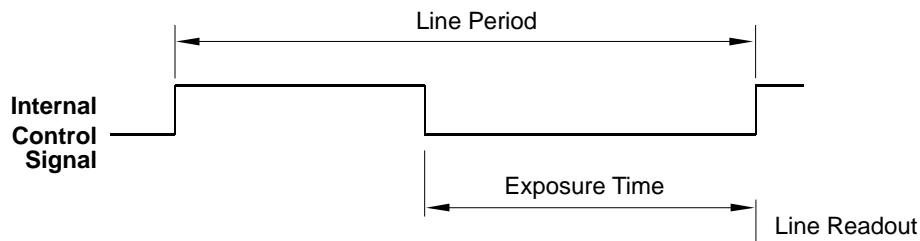

Fig. 55: Free Run, Programmable Mode
- In **free run programmable** mode, line acquisition begins on the rising edge of the ExSync signal. The pixels are exposed and charge is accumulated when the internal control signal is low. The pixel values are read out of the sensor on the rising edge of the internal control signal as shown in Figure 55 on page 97.